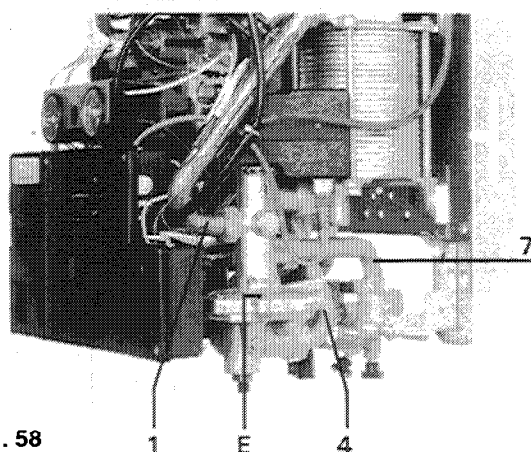

Fig. 58
- c) Close heating flow and return valves (B & C) (see section 8.11 (fig. 58 A)).
- c) Isolate mains water supply - drain from valve beneath the change over valve (see section 8.11 fig. 58 (H)).